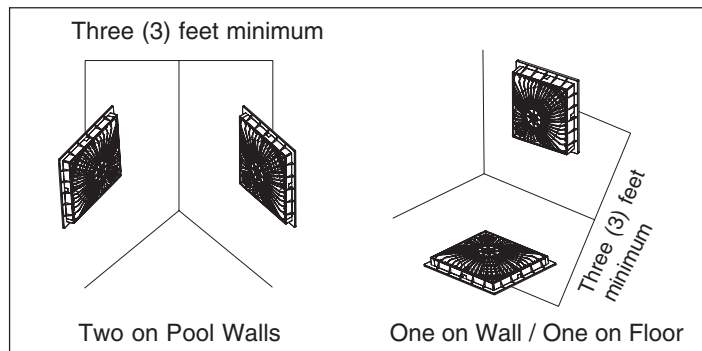
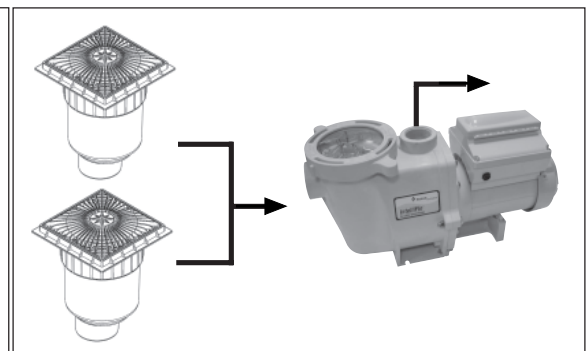

Figure 1: Alternate Location for Suction Outlets
Figure 2: Two Suction Outlets per Pump
- In addition to two or more suction outlets per pump (Figure 2) installed in accordance with the latest APSP standards and CPSC guidelines, follow all applicable national, state and local codes.
- A. Locate the outlets at least three (3) feet apart.
- B. Locate the outlets in two (2) different planes (Figure 1), (for example, one on the bottom and one on a vertical side wall, or on two separate vertical side walls). Use multiple suction sources to reduce risk of entrapment. Failure to maintain fittings and grates can lead to severe injury or death. Use of fittings when grates are broken, loose or missing can lead to severe injury or death. If using 1½ in. plumbing. Consult your local building dept. for codes or ordinances that may apply.